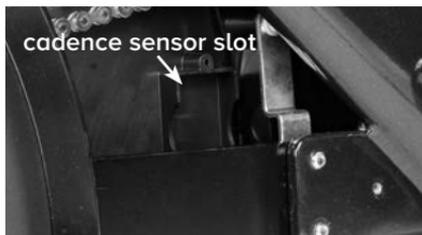
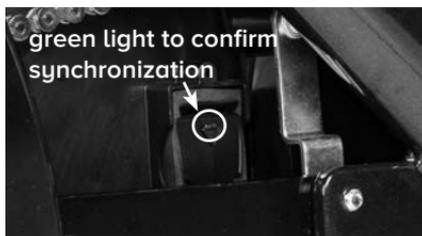

FIG. 6
FIG. 7
5. Identify the cadence sensor slot inside the chain guard (Fig. 6). Insert the cadence sensor, foam holder and double stick adhesive into the slot (Fig. 7).